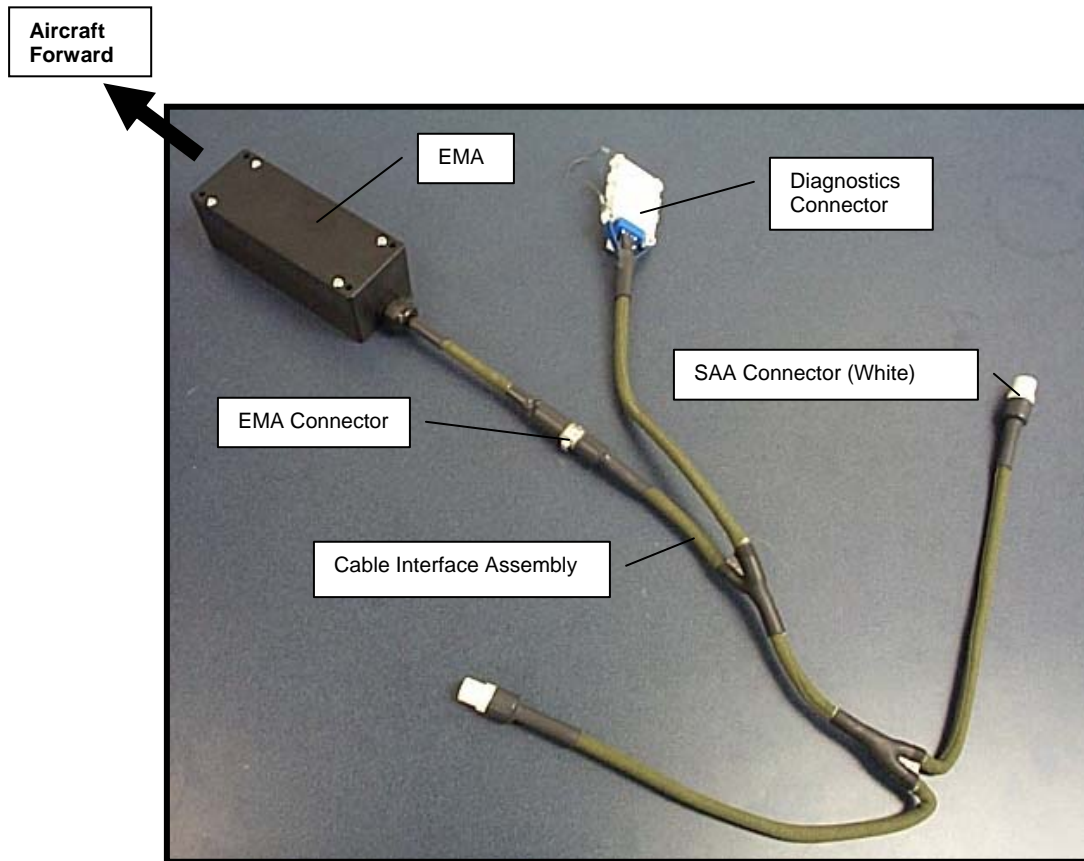

Figure 5 – EMA Module and Cable Interface Assembly
5. Loosen the **Inflator Assembly** (40) from its mounting hardware.
10. Disconnect the **Cable Interface Assembly** from the EMA (Figure 5) by pushing down on connector's locking clip and pulling on the connector housing.